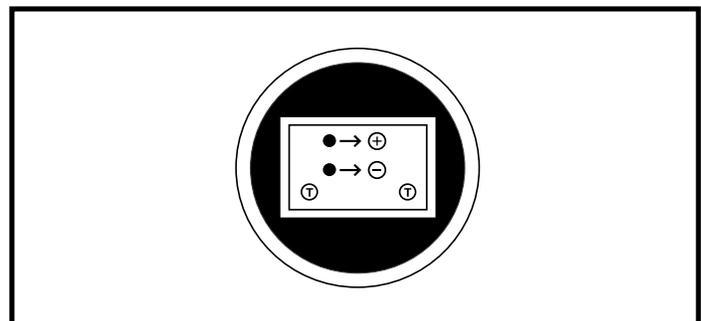

Figure 35. Battery Wiring Diagram Label
7. Reconnect the battery harnesses according to the battery wiring diagram label. See figure 35.